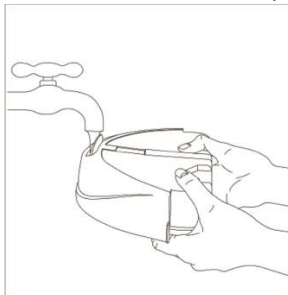

Figure 3
**Warning : Do not put perfume, vinegar, starch, descaling agents, ironing aids or other chemicals in the water tank, as your appliance is not designed to work with these chemicals (Figure 3).**